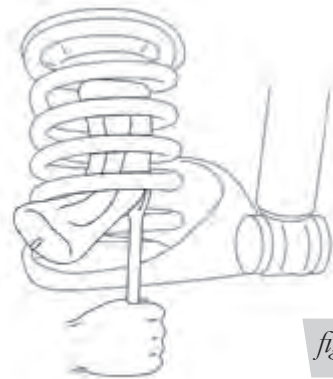

fig. 1
3. Insert flattened air cylinder into coil spring through lowest opening with stem at the bottom (Figure 1).